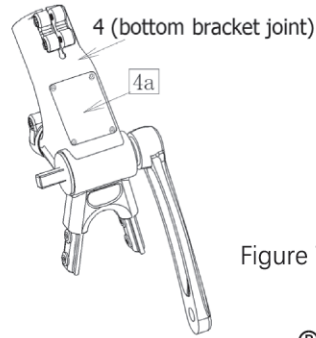

Figure 7.
a. Use a 3 mm Allen key to remove the 4 bolts and remove the cover (4a) from Part 4, as shown in Figure 7.